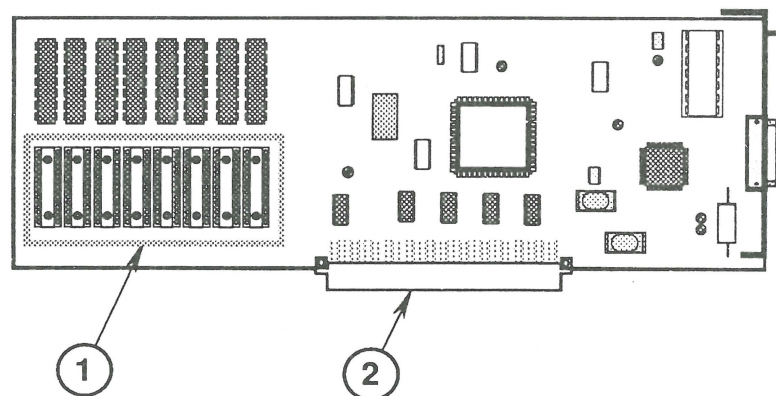

FIGURE 4
1. Install the eight video RAM chips in the appropriate locations on the video card: C1 through C8 (Figure 4, #1).
Note: The notch at the end of each RAM chip should face the expansion slot connector (Figure 4, #2) on the bottom of the card.